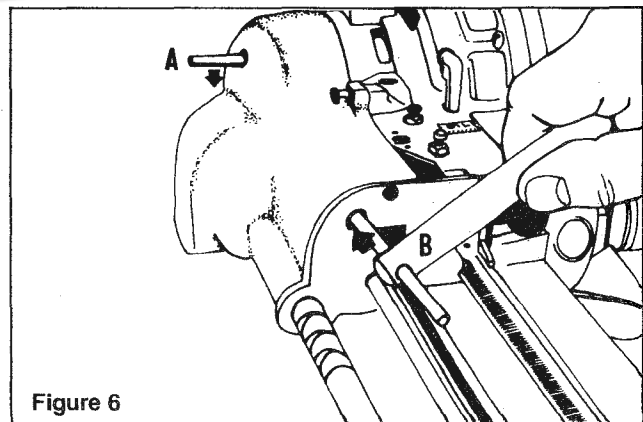

Figure 6
2.9 TO REMOVE SHARPENER FROM MACHINE (Figure 6)
- b) Figure 6: Disengage Tripper Handle "A" by inserting handle of Knife Key "B" through hole in lower cover and pressing upwards until Tripper Handle snaps back to its "off" position.